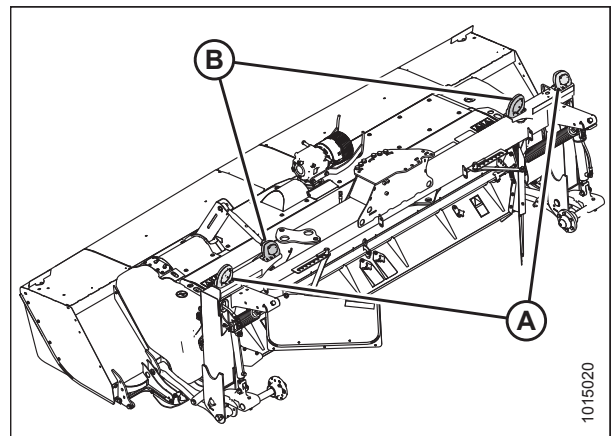

Figure 3.96: Lighting Locations
- If the disc mower does **NOT** include the Road Friendly Transport™ system, refer to Figure 3.96, page 87.